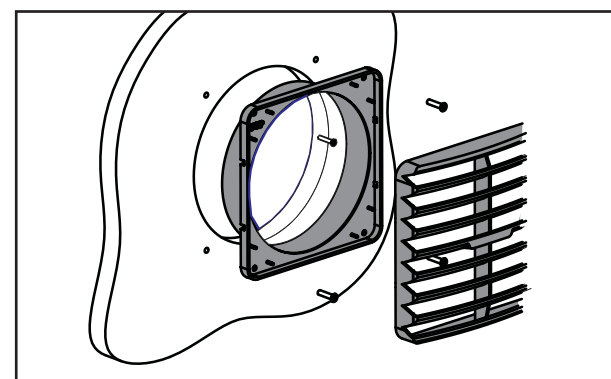

Fig 17.
4. Fix grille base with four 6 G screws and snap fit the grille louvers over the grille base. (Fig. 17).